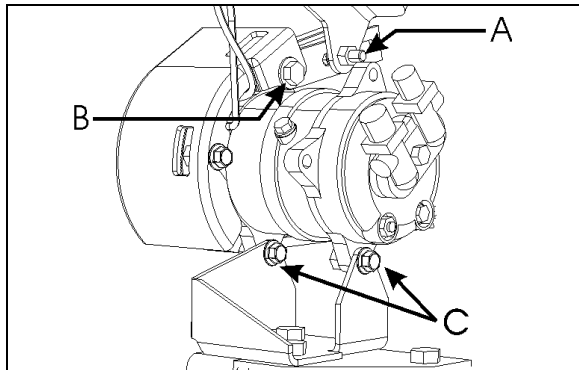

FIGURE 33: COMPRESSOR REMOVAL OR INSTALLATION
- Slacken bolts fixing small compressor. Slacken bolts A (refer to **FIGURE 33**).